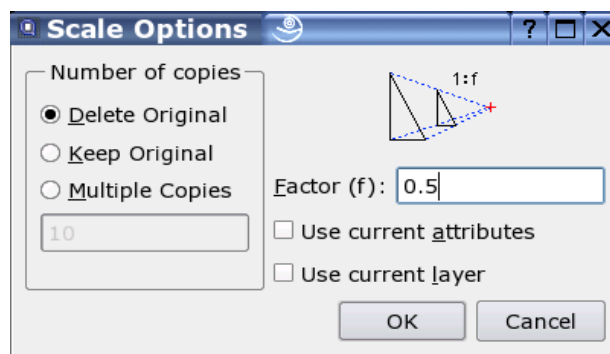

Figure 52: Scale options dialog.
4. The scale dialog is displayed (Figure 52). To scale the entities without keeping the original entities, choose "Delete Original", to copy them choose "Keep Original". Finally you can create a number of scaled copies at once, by choosing "Multiple Copies" and entering the number of copies in the text line below. Note that '9' will create 9 copies and keep the original - so there will be 10 instances of the entities in the end. The copies will have the same attributes and be on the same layer as the original entities. To change that default behavior, you can check "Use current attributes" or "Use current layer".